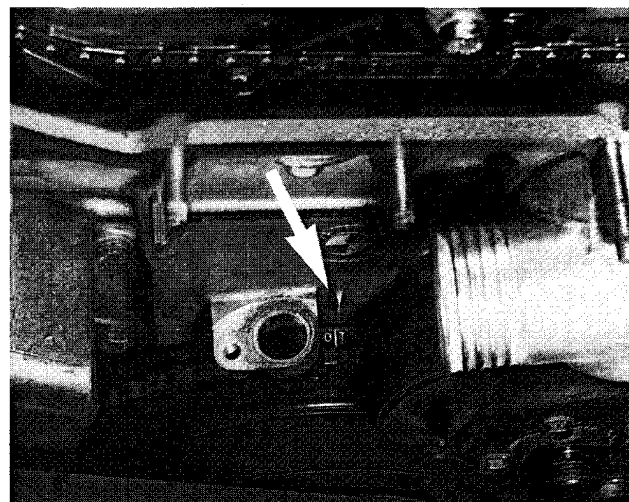

Fig. 21. O/T (0°TDC) mark on vibration damper aligned with boss on timing chain cover (arrow).
14. Set engine to TDC by aligning "0/T" mark (0°TDC) on front vibration damper with cast boss on lower timing chain cover. See Fig. 21.